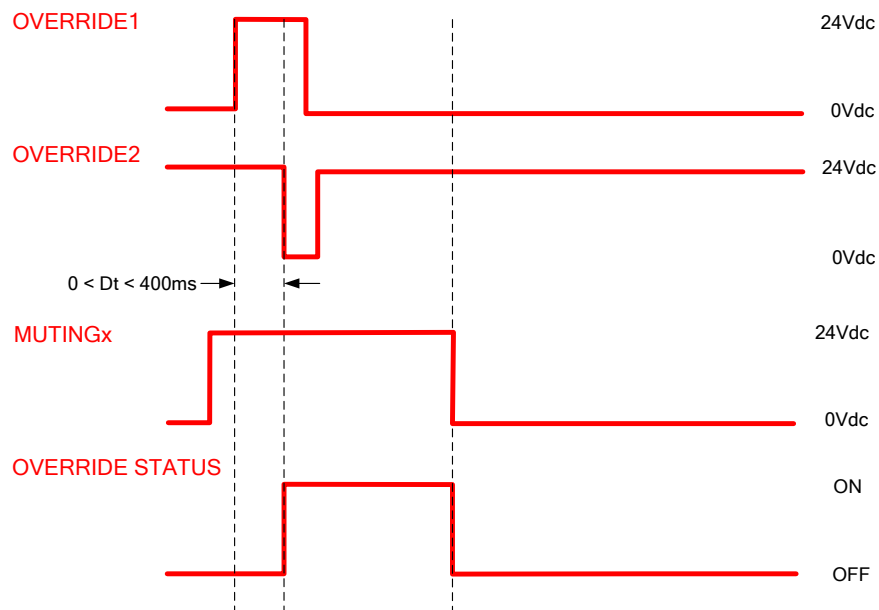
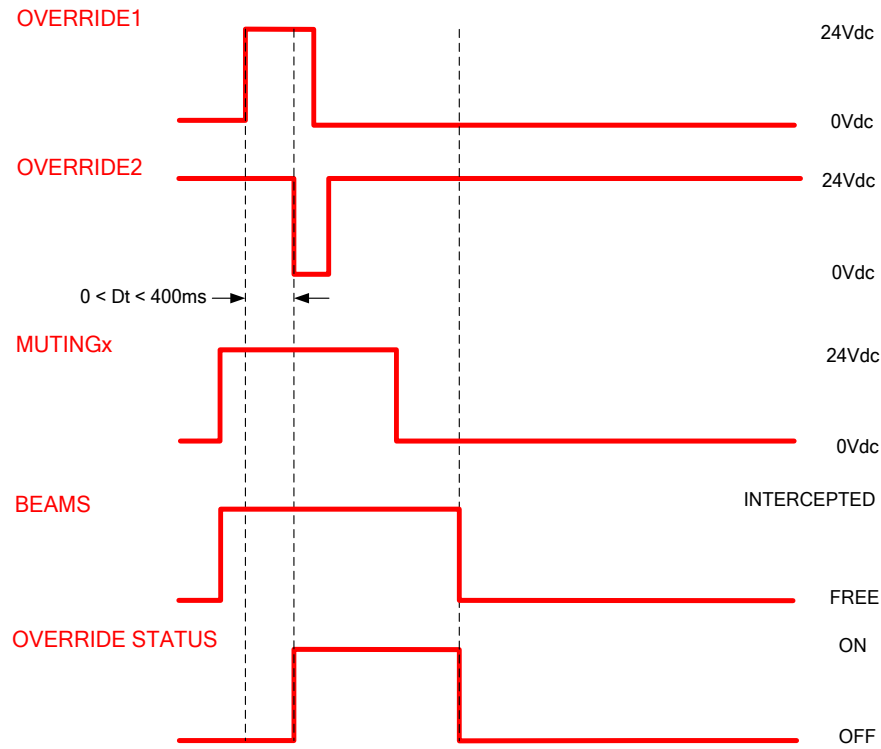

Figure 44
Figure 45
- the muting sensors are free (T-Muting, Figure 44), or the muting sensor are deactivated and the beams of the light curtain are free (L-Muting, Figure 45).